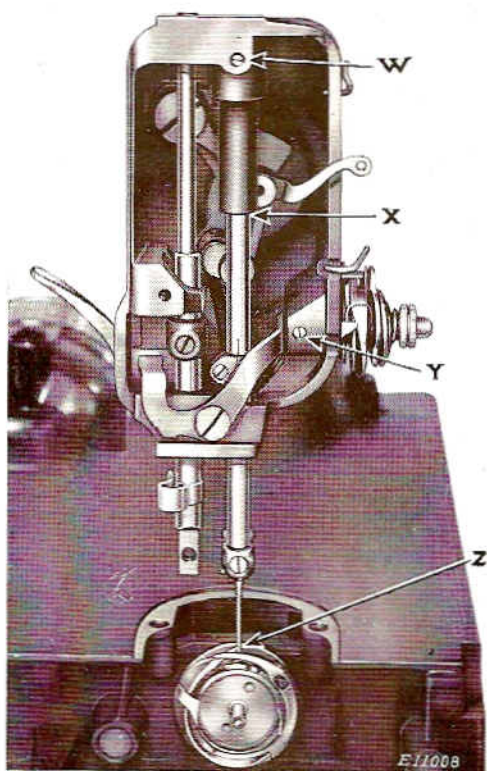
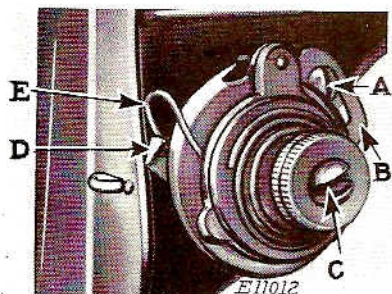

FIG. 20. TIMING ROTARY SEWING HOOK
FIG. 32. THREAD TAKE-UP SPRING
Remove the face plate, presser foot, throat plate and feed dog. Place a new needle in the needle bar, pushing it up into the needle bar as far as it will go. The needle bar has two timing marks near its upper end. Turn the balance wheel toward you until the **lower timing mark** on the needle bar is centred with the lower end of the needle bar bushing when the needle bar is on its upward stroke, as shown at (X, Fig. 20). When the needle bar is in this position, the **point of the sewing hook** should be at the **centre of the needle**, as shown at (Z, Fig. 20), if the hook is correctly timed. In case the hook is not correctly timed, turn the machine over on its rear side and remove the bottom cover plate after taking off the thumb nut which holds the bottom cover plate in place.
The needle bar bushing is accurately set at the factory, and its position should not be disturbed. If its position has been disturbed, turn the balance wheel toward you until the point of the hook is at the centre of the needle and approximately  $\frac{1}{16}$  inch above the top of the eye of the needle. Loosen set screw (W, Fig. 20) and move the bushing up or down until its lower end centres with the **lower timing mark** at (X, Fig. 20). Then tighten set screw (W, Fig. 20).
The thread take-up spring (E, Fig. 32) should be set so that when the eye of the needle reaches the goods on the downward stroke of the needle bar, the spring will be through acting and will rest against the stop (D, Fig. 32) on the thread take-up spring regulator plate (B, Fig. 32). If the thread take-up spring is not correctly
regulated, as instructed, loosen screw (A, Fig. 32) and turn the spring regulator plate (B) to the right to decrease thread take-up spring movement, or to the left to increase the spring movement. When spring (E) is correctly regulated, securely tighten screw (A).
Remove the face plate and loosen set screw (Y, Fig. 20). Turn the tension stud (C, Fig. 32) clockwise to decrease the tension, or counter-clockwise to increase the tension. The tension should be just enough to take up the slack of the needle thread until the eye of the needle reaches the goods in its descent. When the correct tension is obtained, tighten set screw (Y, Fig. 20).